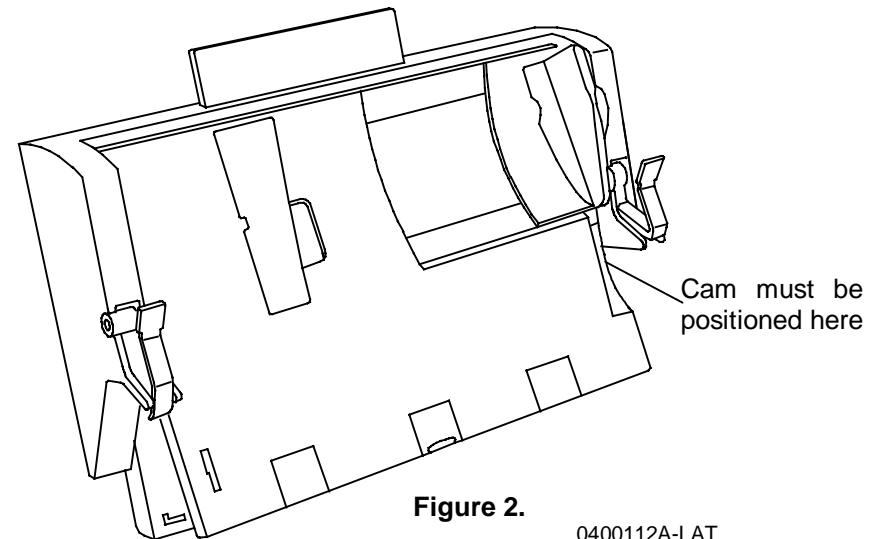

Figure 2.
2. Insert the Paper Tray Assembly into the printer (with bottom of tray touching the bottom of the tray opening on the printer) ensuring the moveable face is behind the white cam (near the bottom, on the left). See Figure 2.